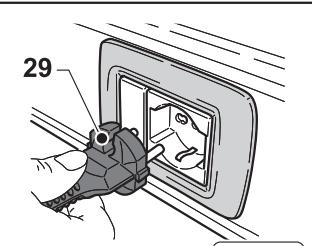

Fig. 14
- Insert the plug (29 Fig. 14) into the socket.